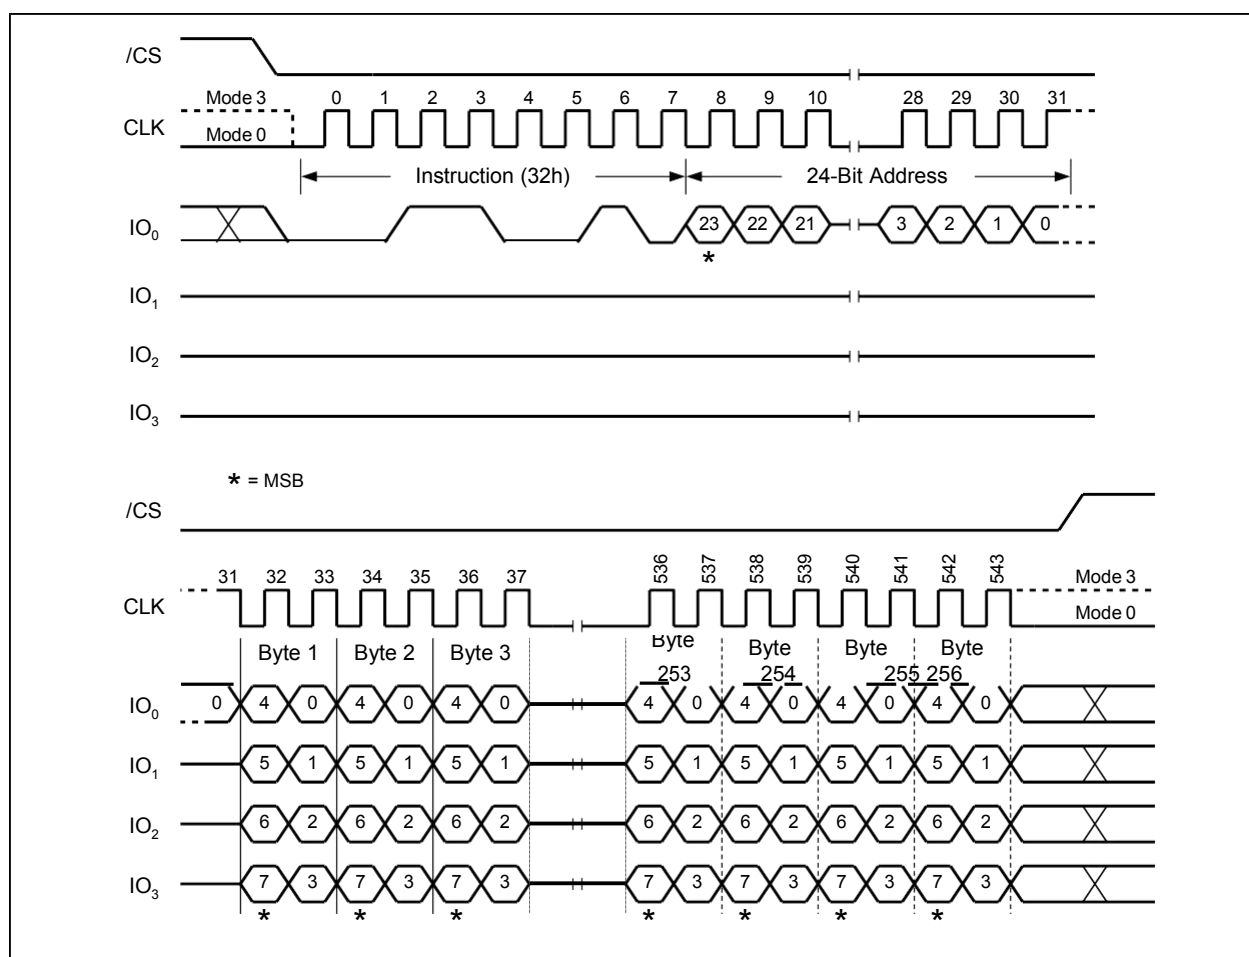

Figure 30. Quad Input Page Program Instruction
To use Quad Page Program the Quad Enable (QE) bit in Status Register-2 must be set to 1. A Write Enable instruction must be executed before the device will accept the Quad Page Program instruction (Status Register-1, WEL=1). The instruction is initiated by driving the /CS pin low then shifting the instruction code “32h” followed by a 24-bit address (A23-A0) and at least one data byte, into the IO pins. The /CS pin must be held low for the entire length of the instruction while data is being sent to the device. All other functions of Quad Page Program are identical to standard Page Program. The Quad Page Program instruction sequence is shown in Figure 30.